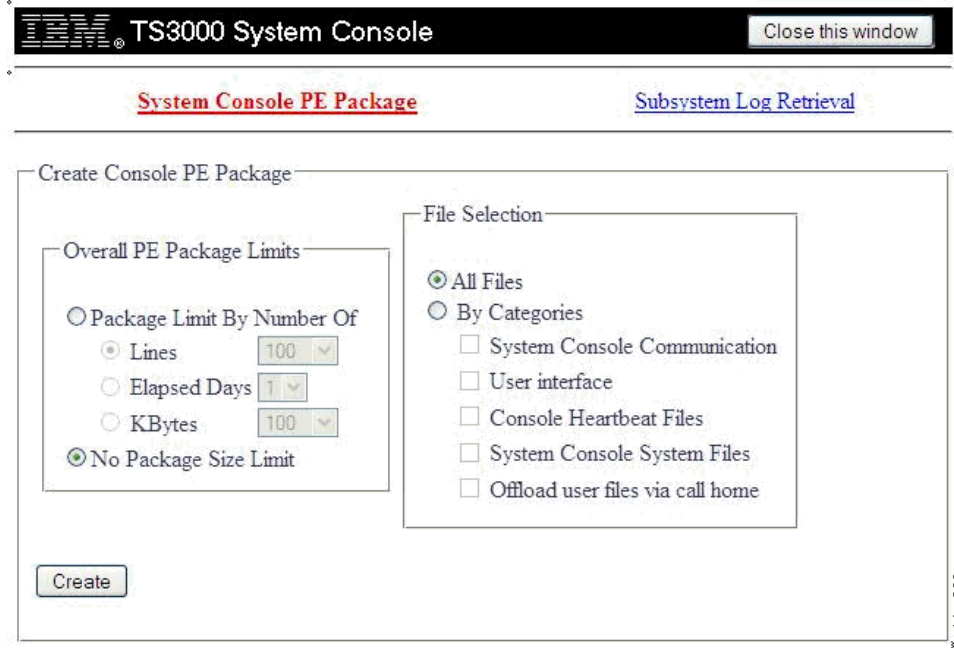

Figure 3-65. Create Console PE Package Menu
4. Click the **PE Packages** icon. You see Figure 3-65 on page 3-49.